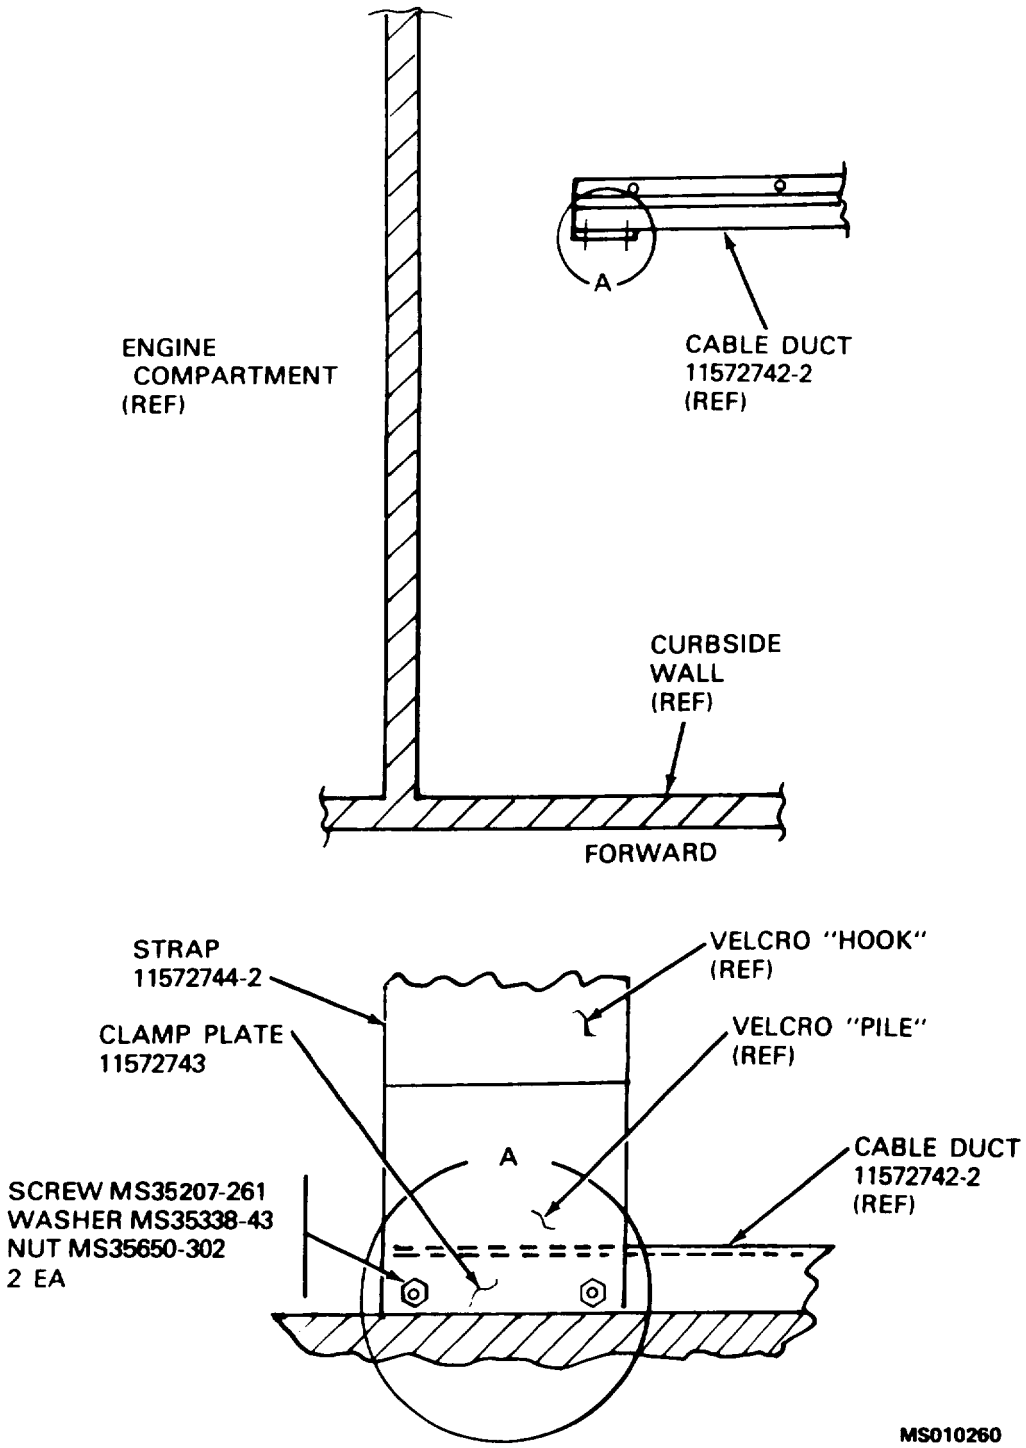

FIGURE 3-17. CLAMP PLATE AND STRAP INSTALLATION
- q. Install strap PN 11572744-2 to the end of cable duct PN 11572542-2 as shown in figure 3-17.